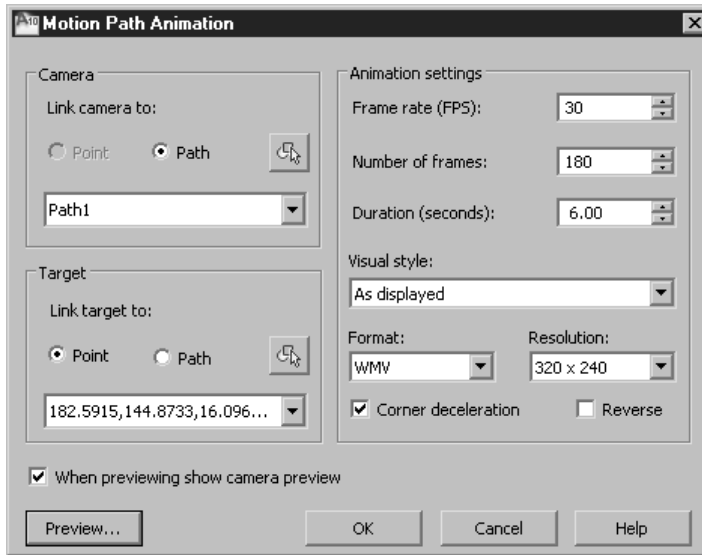

Figure 30-99 The *Motion Path Animation* dialog box for Example 5
5. Invoke the **Motion Path Animation** dialog box(Figure 30-99) from the **Animations** panel in the **Render** tab of the **Ribbon**.
8. Change the values of the **Animation settings** area to the values shown in Figure 30-99.